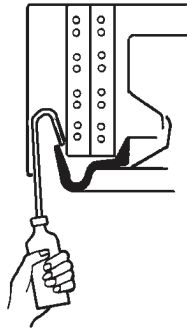

Fig. 44 - Inserting Water Into Drain Pan
- b. On the opposite side of the drain connection, insert a water bottle up into the fan coil unit and fill drain pan. See Fig. 44. Water must flow regularly with condensate pump energized. If not, check the pipe slope or see if there are any pipe restrictions.